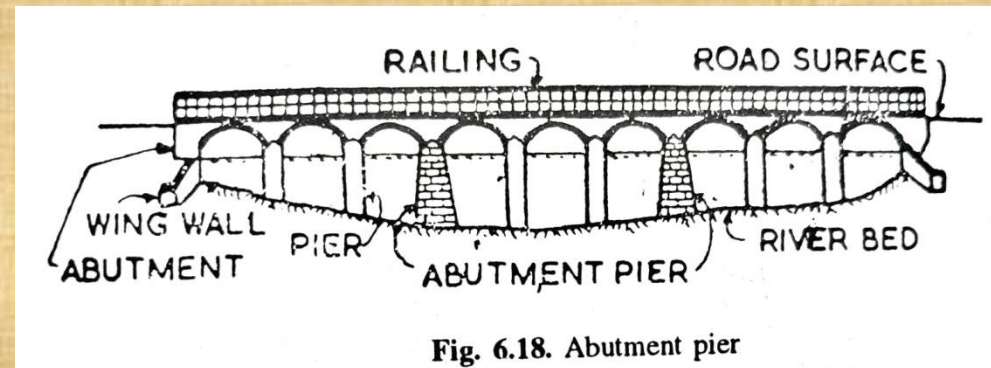

Fig. 6.18. Abutment pier
- The damage caused by failure of an arch under adverse conditions is also localised by providing abutment piers (Fig. 6.18).